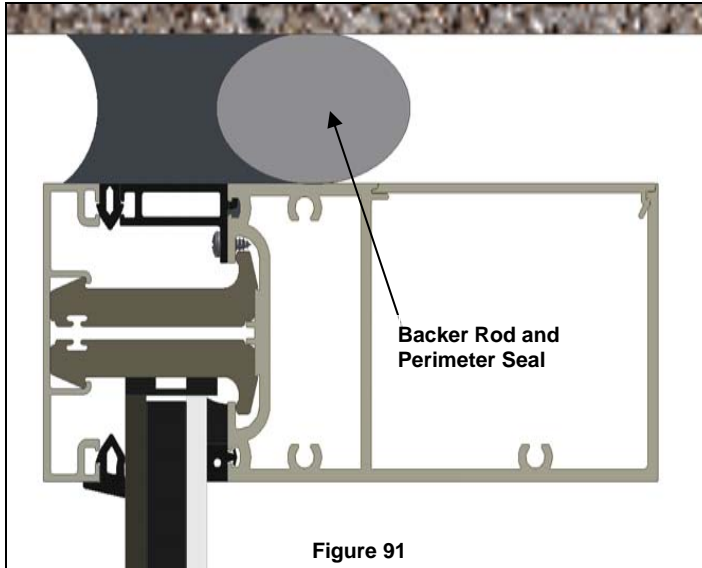

Figure 91
2. The condition at the head is job specific. See Figure 91 for a typical generic head sealant detail. See shop drawings of job specific details.